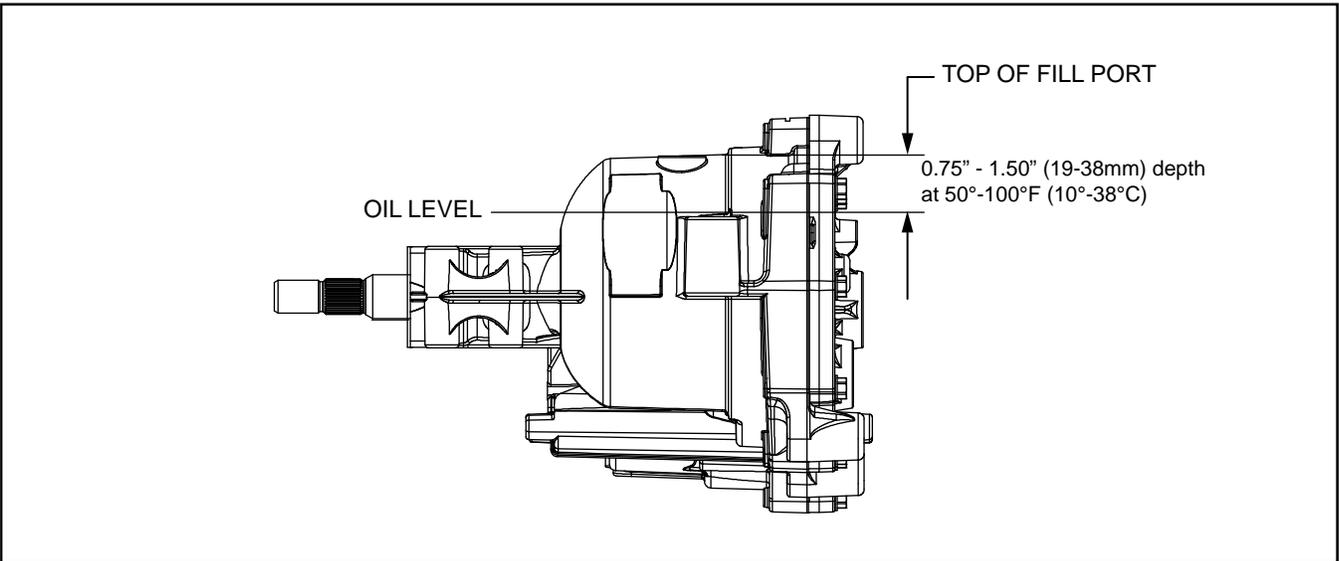

Figure 4. Fluid Level and Fill Port
2. Check oil level in accordance with Figure 4 Page 9.
5. Fill the transaxle at the oil fill port according to Figure 4.
Before starting, make sure the transaxle/transmission is at the proper oil level. If it is not, fill to the specifications outlined on Page 9, Figure 4.